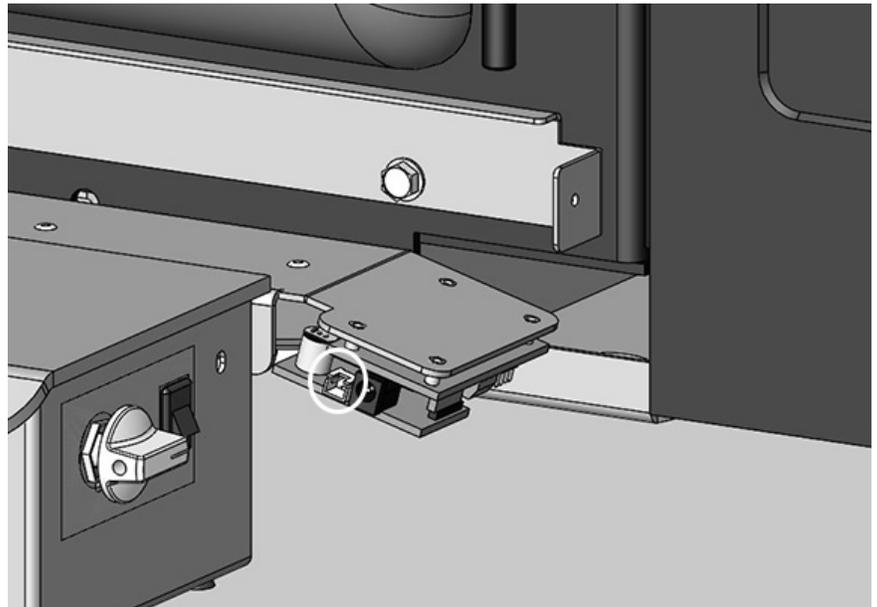

Figure 21: Plug in battery box.
3. Connect the battery box to the plug on the control board. Figure 21